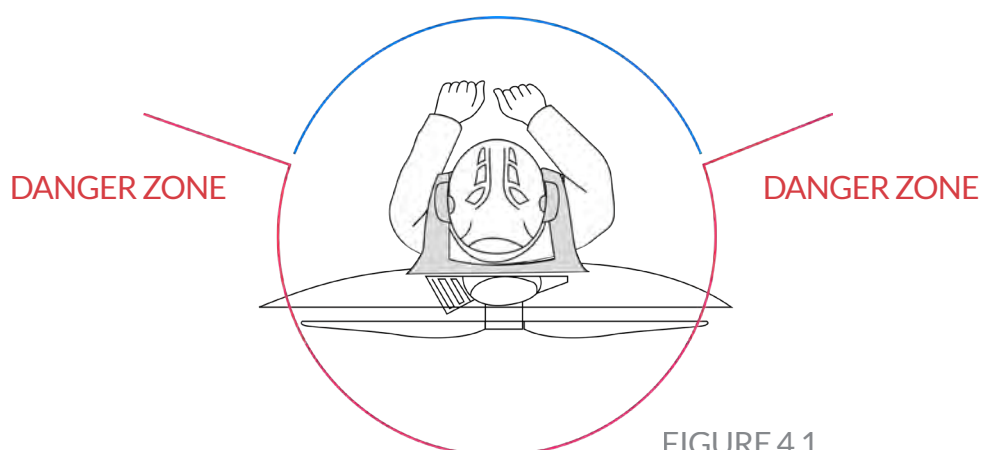

FIGURE 4.1
2. Check your immediate area in a 360 degree arc to make sure any persons are at a safe distance (Figure 4.1). Always warn any persons nearby before starting the engine; Make it a habit to shout 'Clear Prop' in a loud and clear voice.